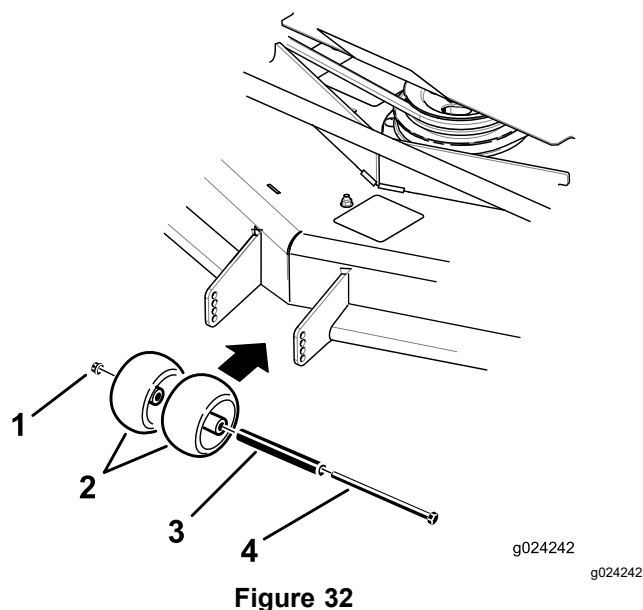
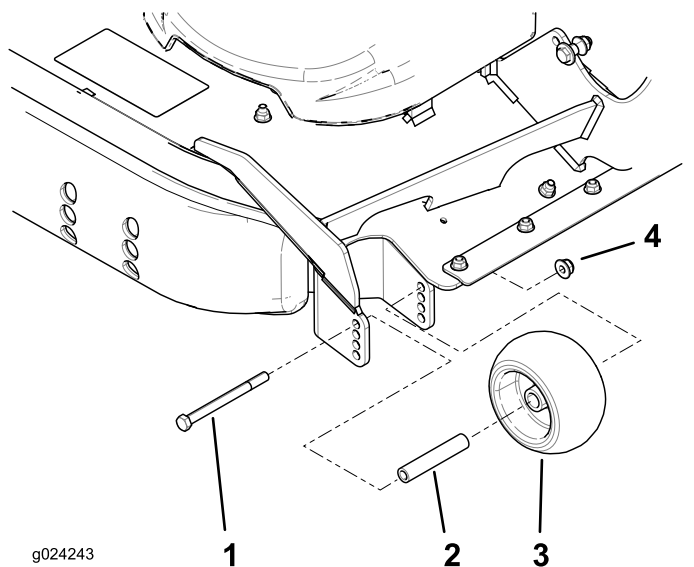

Figure 32
Figure 33
3. Adjust the anti-scalp rollers as shown in Figure 32 and Figure 33.